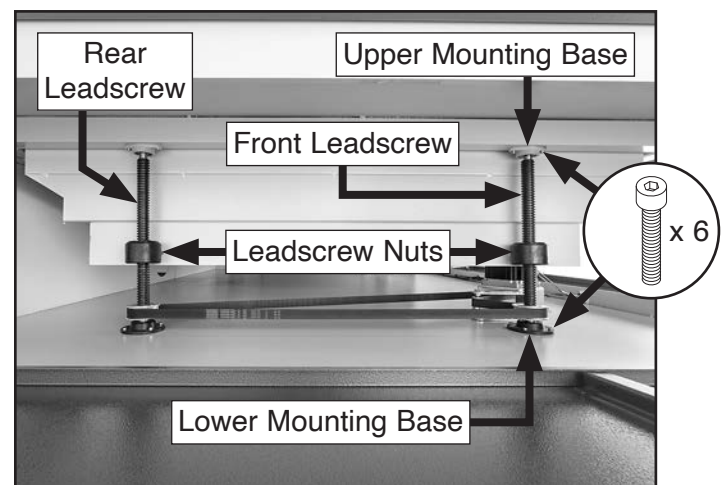

Figure 87. Leadscrew components location.
7. Remove (4) cap screws on front leadscrew lower mounting base (see **Figure 87**).
8. Remove (2) cap screws on front leadscrew upper mounting base (see **Figure 87**).